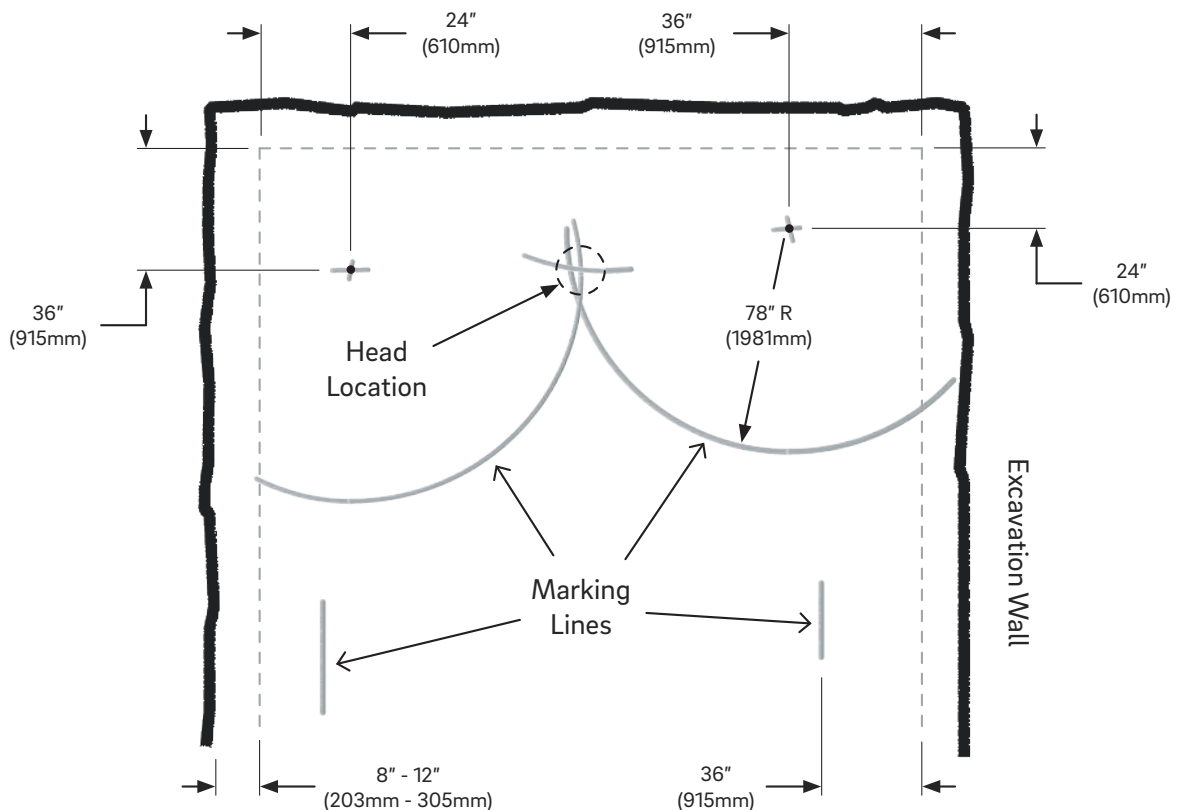

Figure 1
When a transitional break is present, the skimmer should be located near the break or center of the pool. This will allow the return lines for the in-floor system to utilize the same trenches dug for the skimmer and the main drain lines. If this is done, the excavator can dig the skimmer niche all the way to the floor, wide enough to accommodate the return lines for the in-floor system, as well as the main drain lines (Figure 1).
3. Moving around the stake, use either a sharp object or spray paint at the end of the cord to trace an arc around the stake (Figure 1).